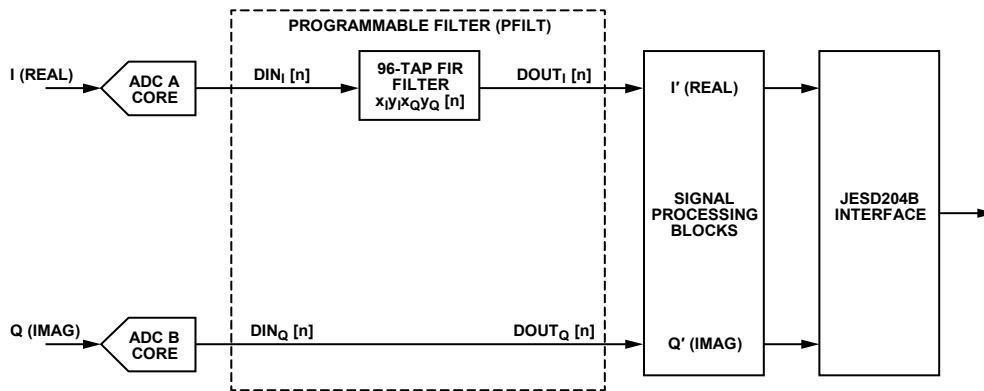

Figure 105. Real 96-Tap Filter Configuration
- Real 96-tap filter for on either I or Q channel (see Figure 105)